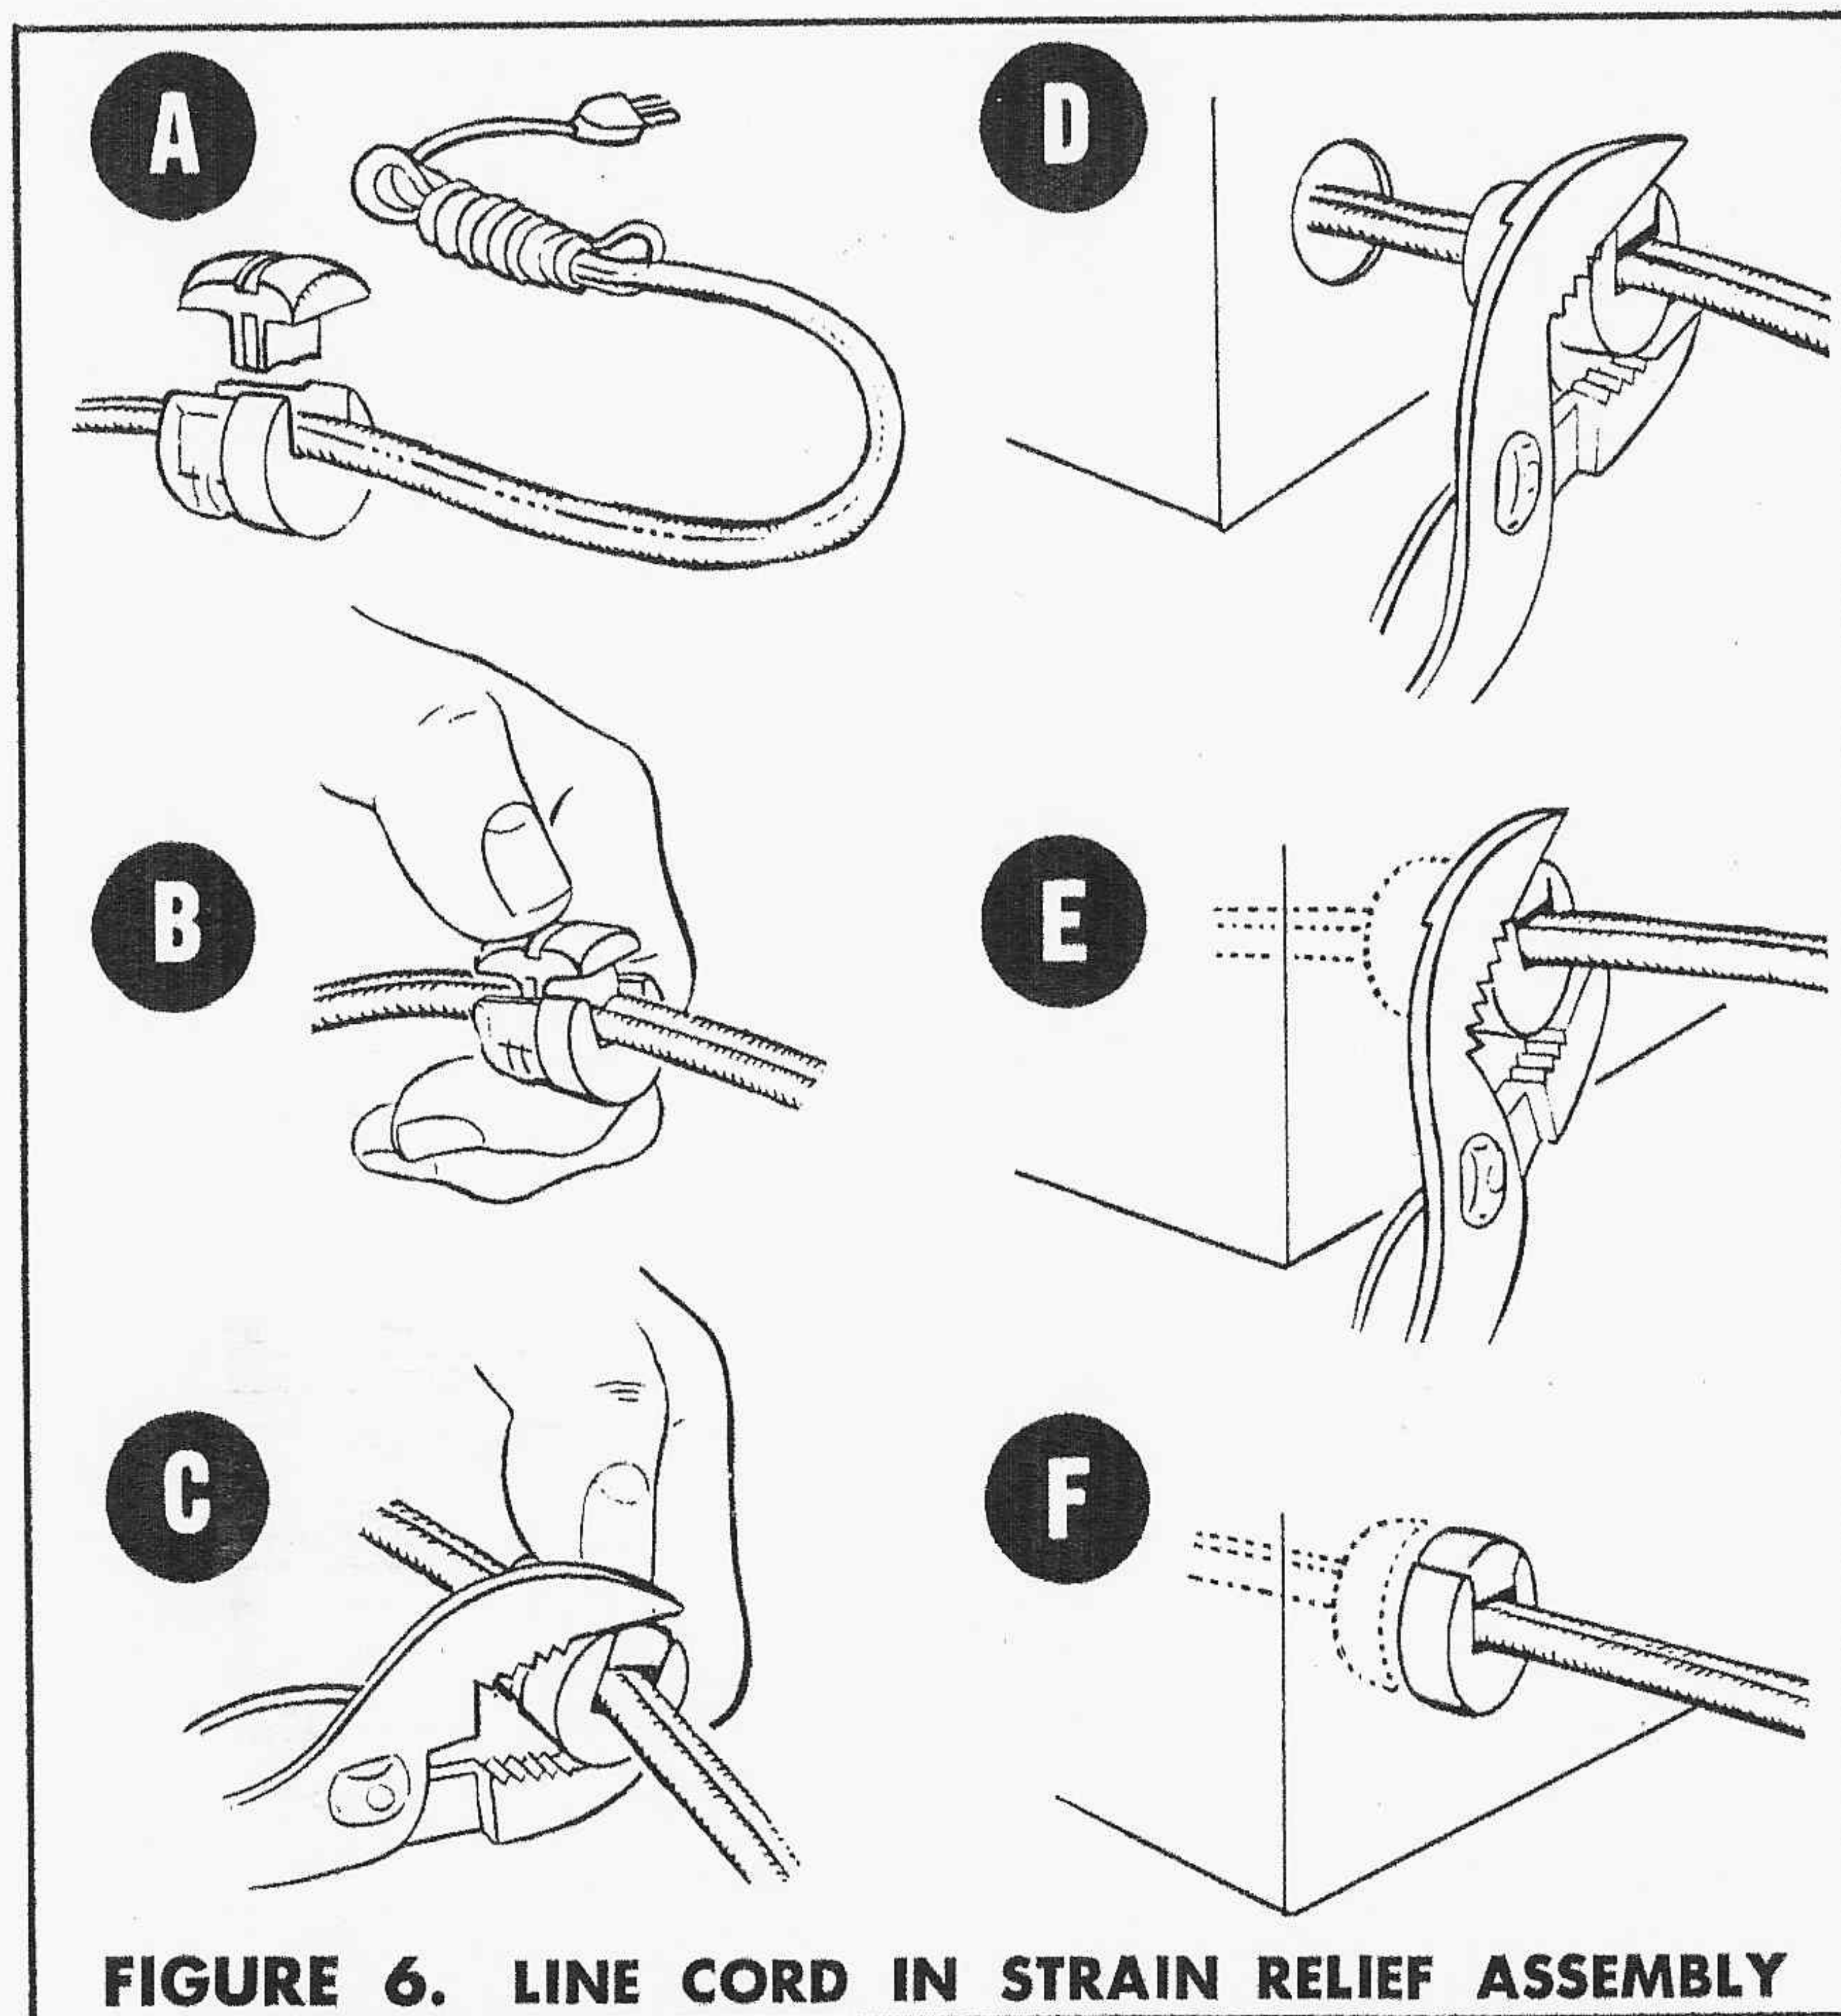

FIGURE 6. LINE CORD IN STRAIN RELIEF ASSEMBLY
85. (✓) Cut each lead of the 180 ohm 1/2 w resistor R5 (brown-grey-brown-silver) (part #13-34) to 3/4" length, and connect from lug 2 on terminal post BB (S) to pin 1 of socket C (S).
86. (✓) Cut each lead of the 270 ohm 1 w resistor R6 (red-violet-brown-silver) (part #13-82) to 1/2" length, and connect from pin 7 of socket B (NS) to lug 1 on terminal post AA (NS).
87. (✓) Cut each lead of the 4700 ohm 1/2 w resistor R7 (yellow-violet-red-silver) (part #13-18) to 5/8" length, and connect from lug 1 on terminal post AA (S) to lug 2 on terminal post AA (NS).
88. (✓) Cut each lead of the 47,000 ohm 1/2 w resistor R8 (yellow-violet-orange-silver) (part #13-4) to 1" length, and connect from lug 2 on control J (NS) to lug 2 on terminal post AA (NS).
89. (✓) Cut each lead of the 100 K 1/2 w resistor R9 (brown-black-yellow-silver) (part #13-1) to 7/8" length, and connect from lug 2 on terminal post AA (S) to lug 5 on terminal post AA (NS).
90. (✓) Cut each lead of the 750 μf ceramic disc capacitor C12 (part #12-61) to 1" length, and connect from lug 2 on control J (S) to lug 3 on terminal post AA (NS).
91. (✓) Cut each lead of the 27,000 ohm 1/2 w resistor R10 (red-violet-orange-silver) (part #13-33) to 1" length, and connect from lug 3 on control H (S) to lug 4 on terminal post AA (NS).
92. (✓) Cut each lead of a 0.01 μf ceramic disc capacitor C13 (part #12-8) to 1/2" length, and connect from lug 4 on terminal post AA (S) to lug 5 on terminal post AA (S).
93. (✓) Cut each lead of a 0.01 μf ceramic disc capacitor C14 (part #12-8) to 3/4" length, and connect from lug 3 on terminal post AA (S) to lug 6 on terminal post AA (S).
94. (✓) Cut each lead of the 0.005 μf ceramic disc capacitor C15 (part #12-36) to 1/2" length, and connect from pin 6 of socket C (S) to pin 7 of socket C (S).
95. (✓) Insert the line cord into the two-piece strain relief (part #20-3) as shown in Figure 6, a,b,c. Allow the stripped end to project 3" beyond the strain relief. Feed the stripped end through the chassis hole R, and insert the strain relief as shown in Figure 6, d,e,f. Connect one stripped end to lug 1 on the terminal post BB (S); run the other stripped end through pin 4 on socket B and connect to pin 5 of socket B (NS). Solder pin 4 (S).
96. (✓) Cut the leads of the 0.01 μf ceramic disc capacitor C16 (part #12-8) to 1/2" length, and connect from pin 5 of socket B (S) to pin 7 of socket B (S).